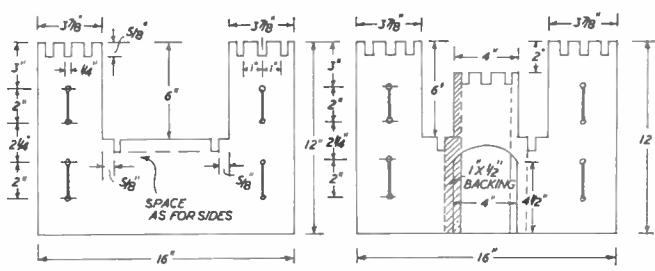

Fig. 4
The two centre-rails (D) are also tenoned in position, but stub tenons are made as shown in Fig. 4. They should be quite short, about  $\frac{1}{4}$ in. will be sufficient.
The 'north' and 'south' ends differ in layout and are detailed in Fig. 4. Again these are cut from hardboard, using the same technique as previously. Finish the extreme edges perfectly true and square and fasten to each end of the base. Tower joints are glued and should be reinforced in places with pins. The best method of fitting the pins is to drill through the facing piece of hardboard and then position the pin carefully and drive home. Two or three pins in each